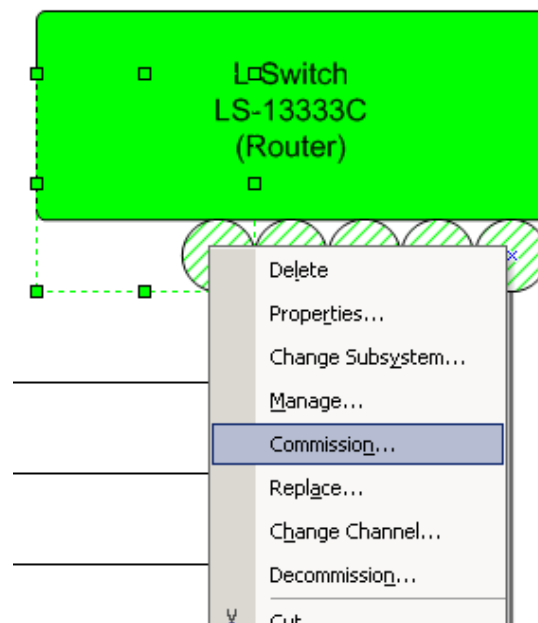

Figure 4: Commissioning an L-Switch port
- Finally the ports of the L-Switch have to be commissioned (when operating the L-Switch in “Smart Switch Mode” this step is optional). To do this right click on each of the hatched circles at the bottom of the L-Switch shape and select “Commission” from the context menu (see Figure 4). Start with the port closest to your network interface (in our example this is the port connected to Channel 1). Note: You have to be “Onnet” to be able to commission the L-Switch.